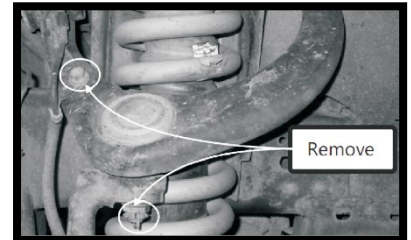

Fig 1: Remove the clip securing the upright to the upper control arm
5. Remove the clip securing the upright to the upper control arm from the bottom of the ball joint stud (Fig 1).